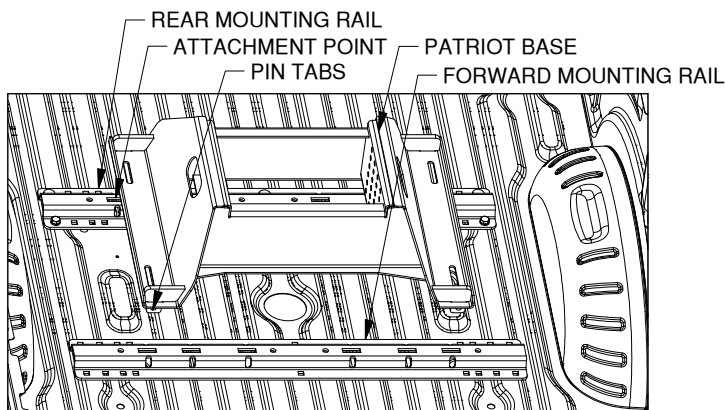

Figure E1: View into truckbed looking towards tailgate.
1. **Position the forward mounting rail.** For this step the base which will be used in the mounting rails is required. Place a mounting rail into the truck bed in front of the rear mounting rail. Place the base over the rail attachment points and carefully lower it until the pin tabs pass through the attachment points on the rear mounting rail. Attach the forward mounting rail to the forward mounting points on the base. The base should rest flat against the top of the rails, see Figure E1. With the base still attached ensure that the forward rail is centered in the truck bed.